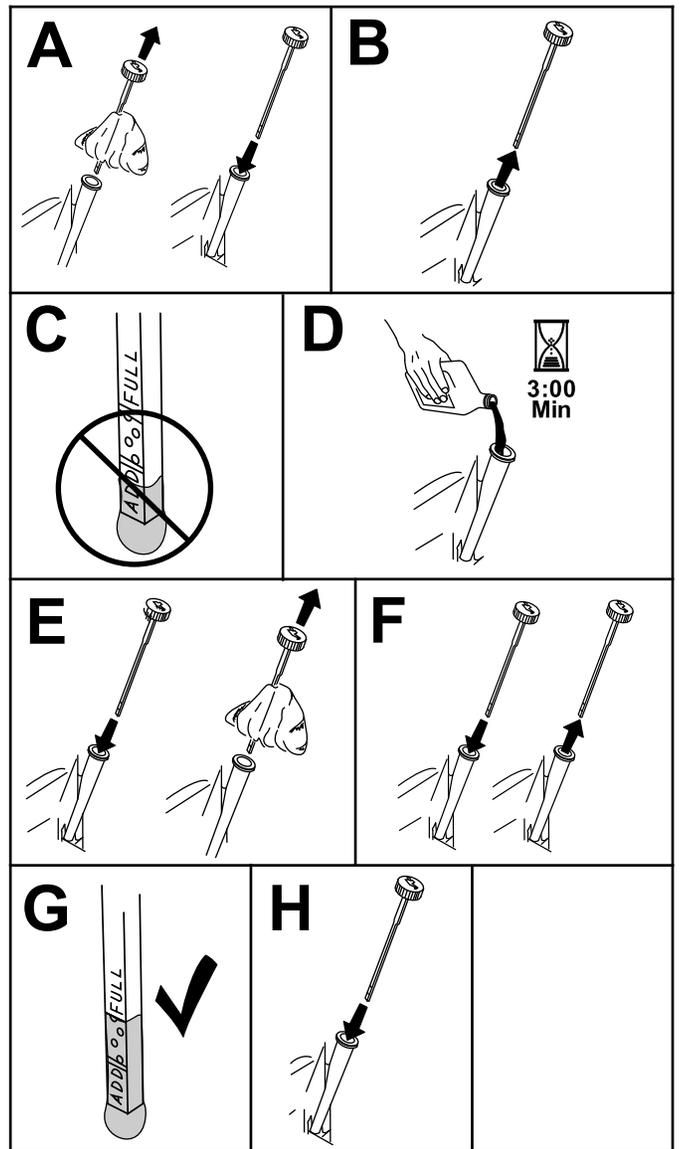

Figure 37
3. To keep dirt, grass clippings, etc., out of the engine, clean the area around the oil-fill cap and dipstick before removing it (Figure 37).